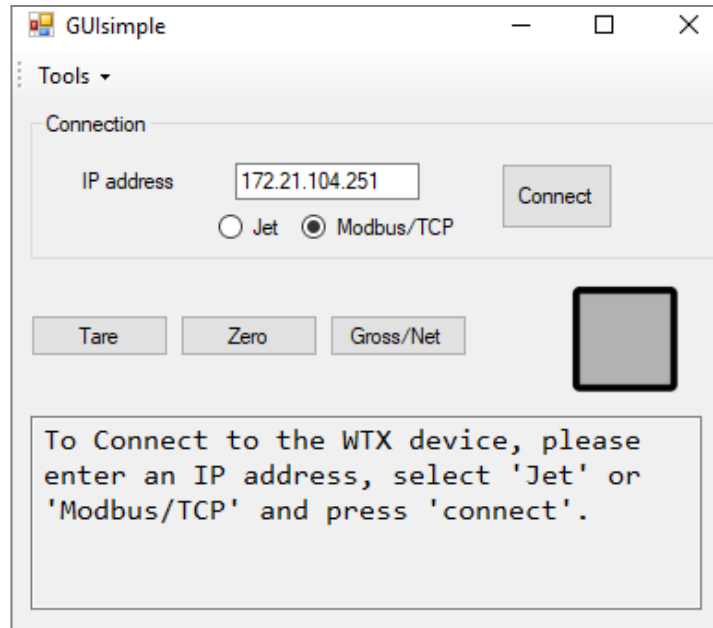

Figure 4.5: GUIsimple application window before connect
- In case of a successful execution, the windows shown in Figure 4.5 appears.